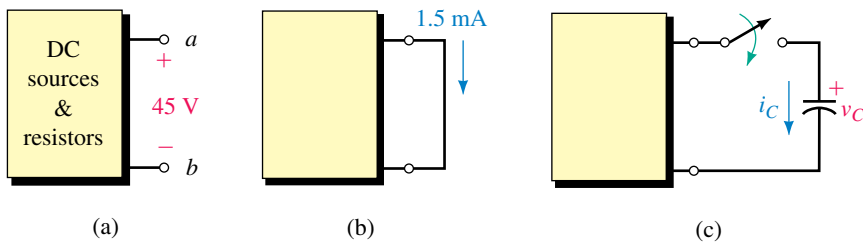

FIGURE 11-62
36. A black box containing dc sources and resistors has open-circuit voltage of 45 volts as in Figure 11-62(a). When the output is shorted as in (b), the short-circuit current is 1.5 mA. A switch and an uncharged 500- μ F capacitor are connected as in (c). Determine the capacitor voltage and current 25 s after the switch is closed.